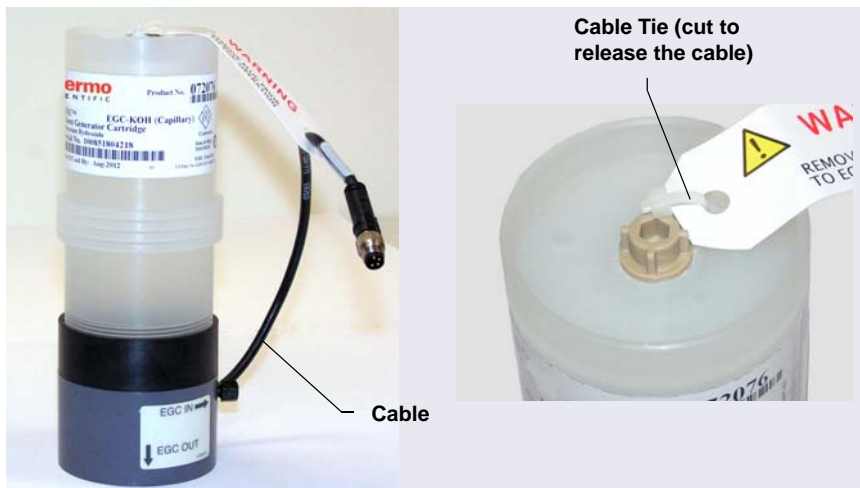

Figure 3-2. Dionex EGC Cable Attached to Cartridge (Capillary Version Shown)
4. The Dionex EGC cable is attached to the cartridge with a cable tie (see Figure 3-2). Cut the cable tie to release the cable.